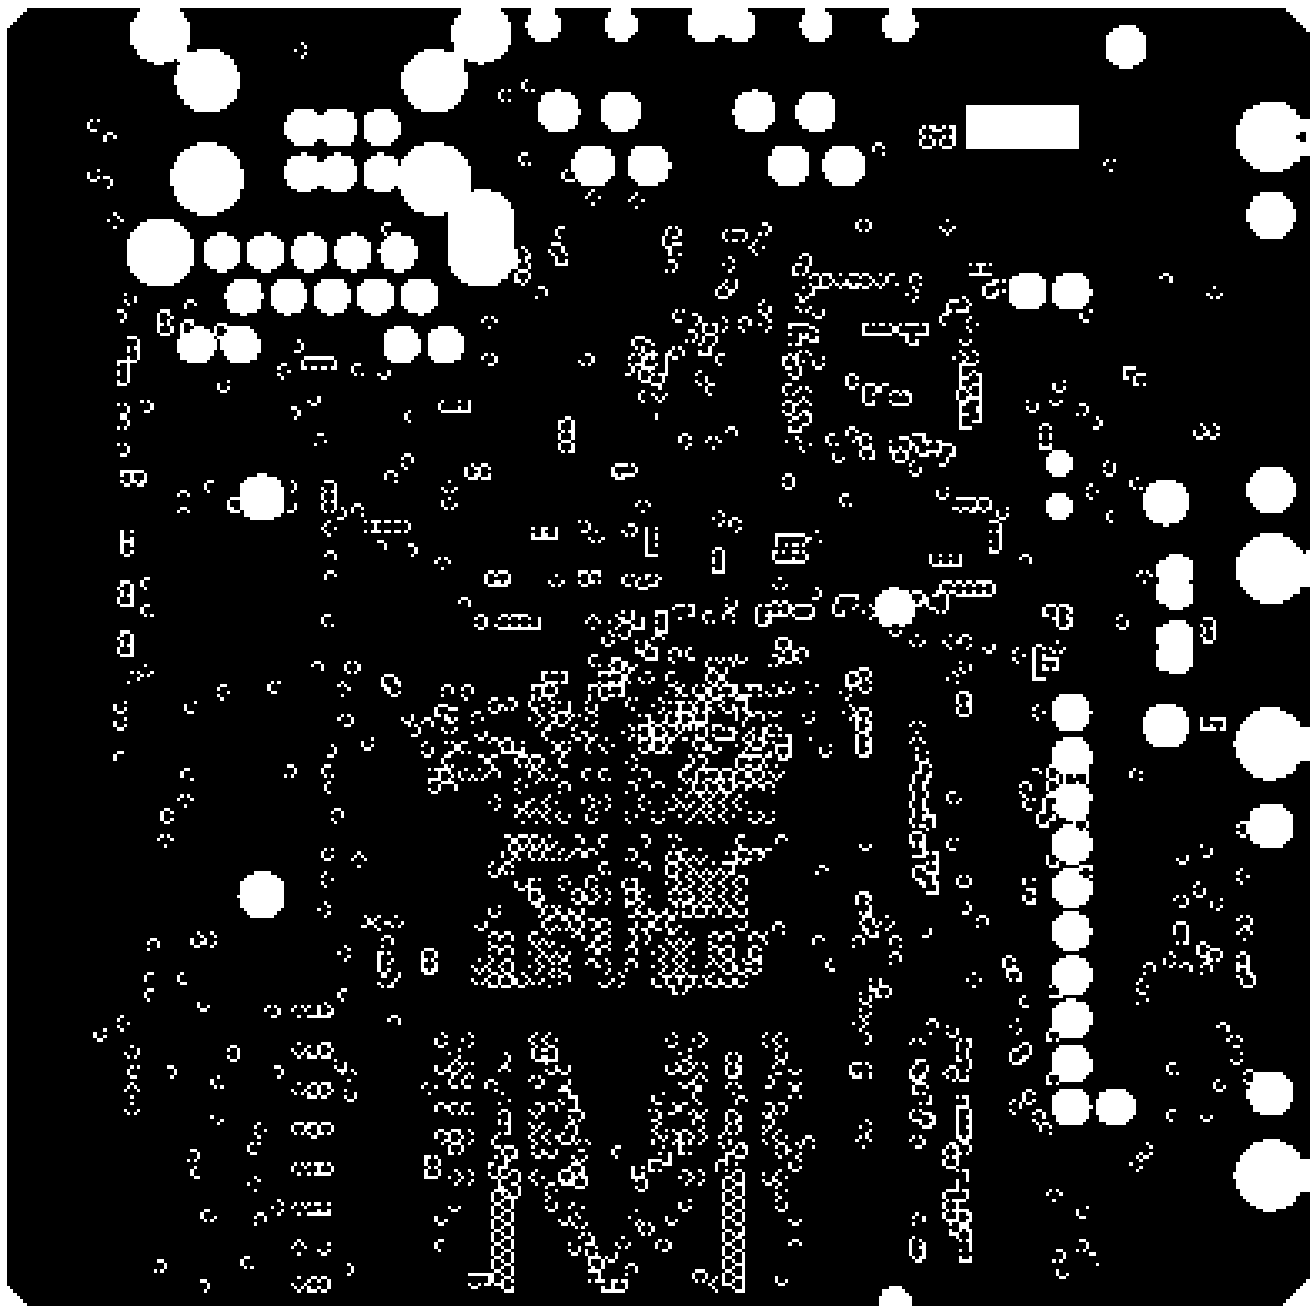

Figure 63. Seventh Etch Layer
- Figure 63. Seventh Etch Layer